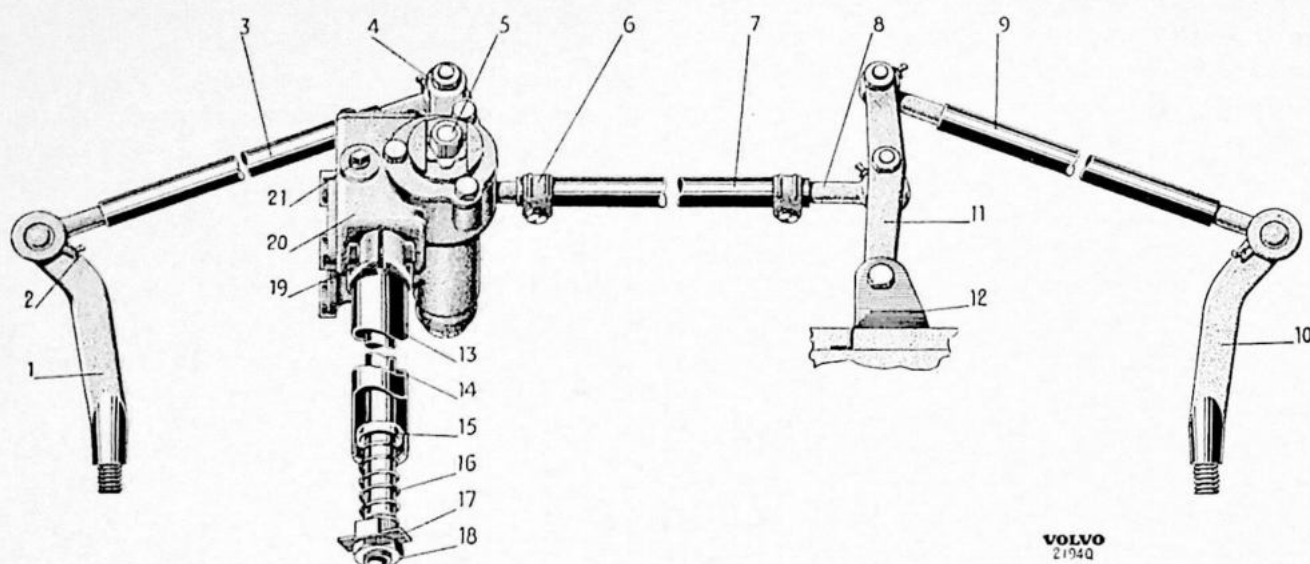

Fig. 17. Steering mechanism.
The movement is transferred from the pitman arm (4, fig. 17) to the wheels via tie rod (7), steering rods (3 and 9) and steering idler arm (11).
This steering gear gives the car a turning circle of about 10.5 m (34½ ft.). The number of steering wheel turns lock to lock is 3¾. See fig. 17—20 for particulars in design.